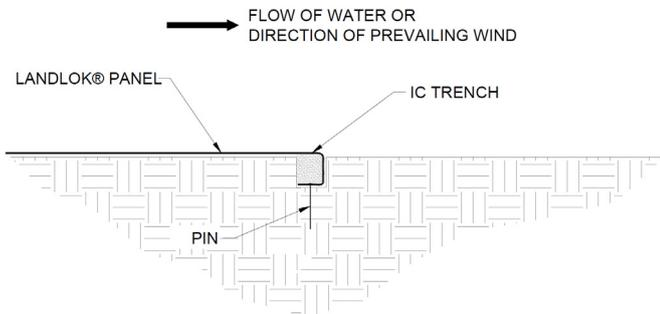

Figure 7: Initial Channel (IC) Trench Complete
- Wire staples should be made of steel with a 6 in X 1 in X 6 in (11 gauge wire) or a 8 in X 1 in X 8 in (8 gauge wire) with sufficient ground penetration to resist pullout (Figure 7).
5. Fold the TRM panel over the top of the compacted IC trench (Figure 7) and place each panel end into the respective COS trenches.